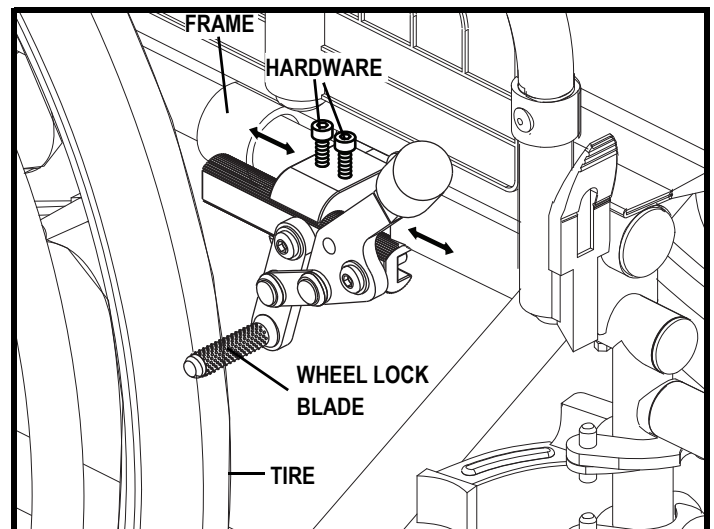

Figure 26. Manual Wheel Lock Adjustment
2. Loosen the hardware that fastens the wheel lock to the frame. See figure 26.